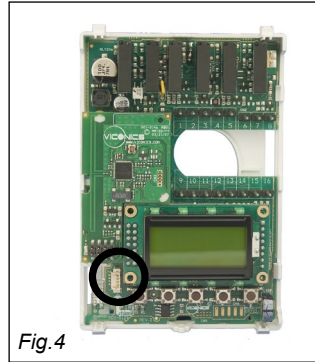

Fig.4
- The male polarized PIR connector is located at bottom left corner of thermostat (Fig. 4)
- Insert polarized connector into PIR female connector located on thermostat base (Fig 4)